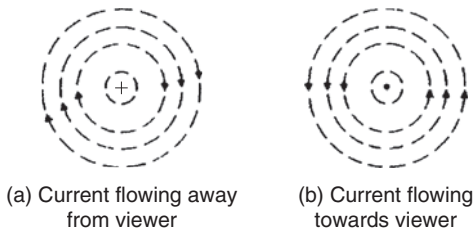
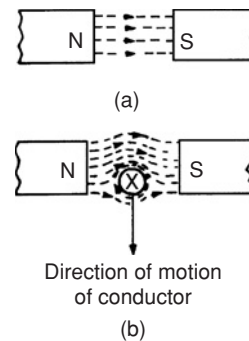

Figure 8.3
Figure 8.13
When dealing with magnetic fields formed by electric current it is usual to portray the effect as shown in Fig. 8.3 The convention adopted is:
- (i) Current flowing away from the viewer, i.e. into the paper, is indicated by  $\odot$ . This may be thought of as the feathered end of the shaft of an arrow. See Fig. 8.3(a).
- (ii) Current flowing towards the viewer, i.e. out of the paper, is indicated by  $\ominus$ . This may be thought of as the point of an arrow. See Fig. 8.3(b).
For example, with current flowing away from the viewer (Fig. 8.3(a)) a right-hand thread screw driven into the paper has to be rotated clockwise. Hence the direction of the magnetic field is clockwise.
If the current-carrying conductor shown in Fig. 8.3 (a) is placed in the magnetic field shown in Fig. 8.13(a), then the two fields interact and cause a force to be exerted on the conductor as shown in Fig. 8.13(b). The field is strengthened above the conductor and weakened below, thus tending to move the conductor downwards. This is the basic principle of operation of the electric motor (see Section 8.4) and the moving-coil instrument (see Section 8.5).